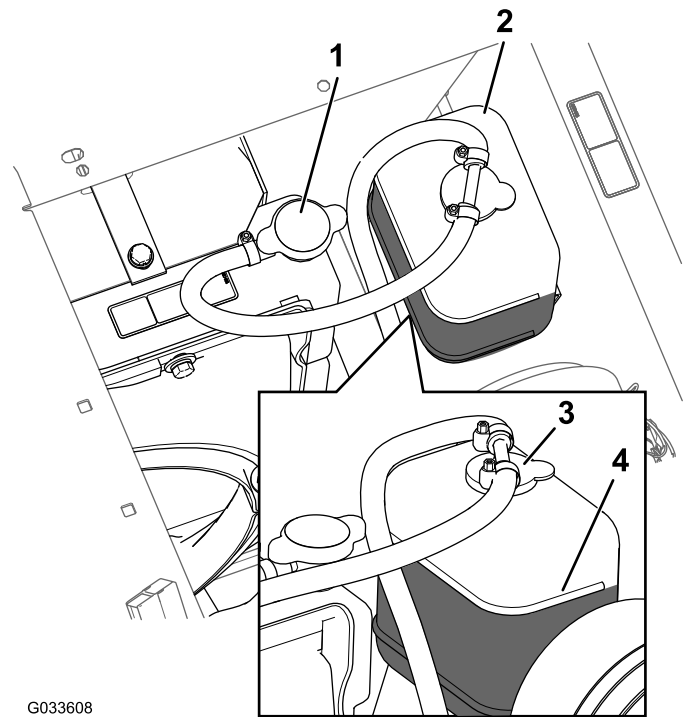

Figure 85
3. Carefully remove the radiator cap and the expansion-tank cap (Figure 85).
Note: The radiator should be filled to the top of the filler neck and the expansion tank filled to the FULL mark on the tank (Figure 85).
5. If the coolant level is low, remove the expansion-tank cap and the radiator cap, and fill the expansion tank to the FULL mark and the radiator to the top of the filler neck (Figure 85).
6. Install the radiator cap and the expansion-tank cap (Figure 85).
- When the engine is cool, remove the radiator cap (Figure 85).